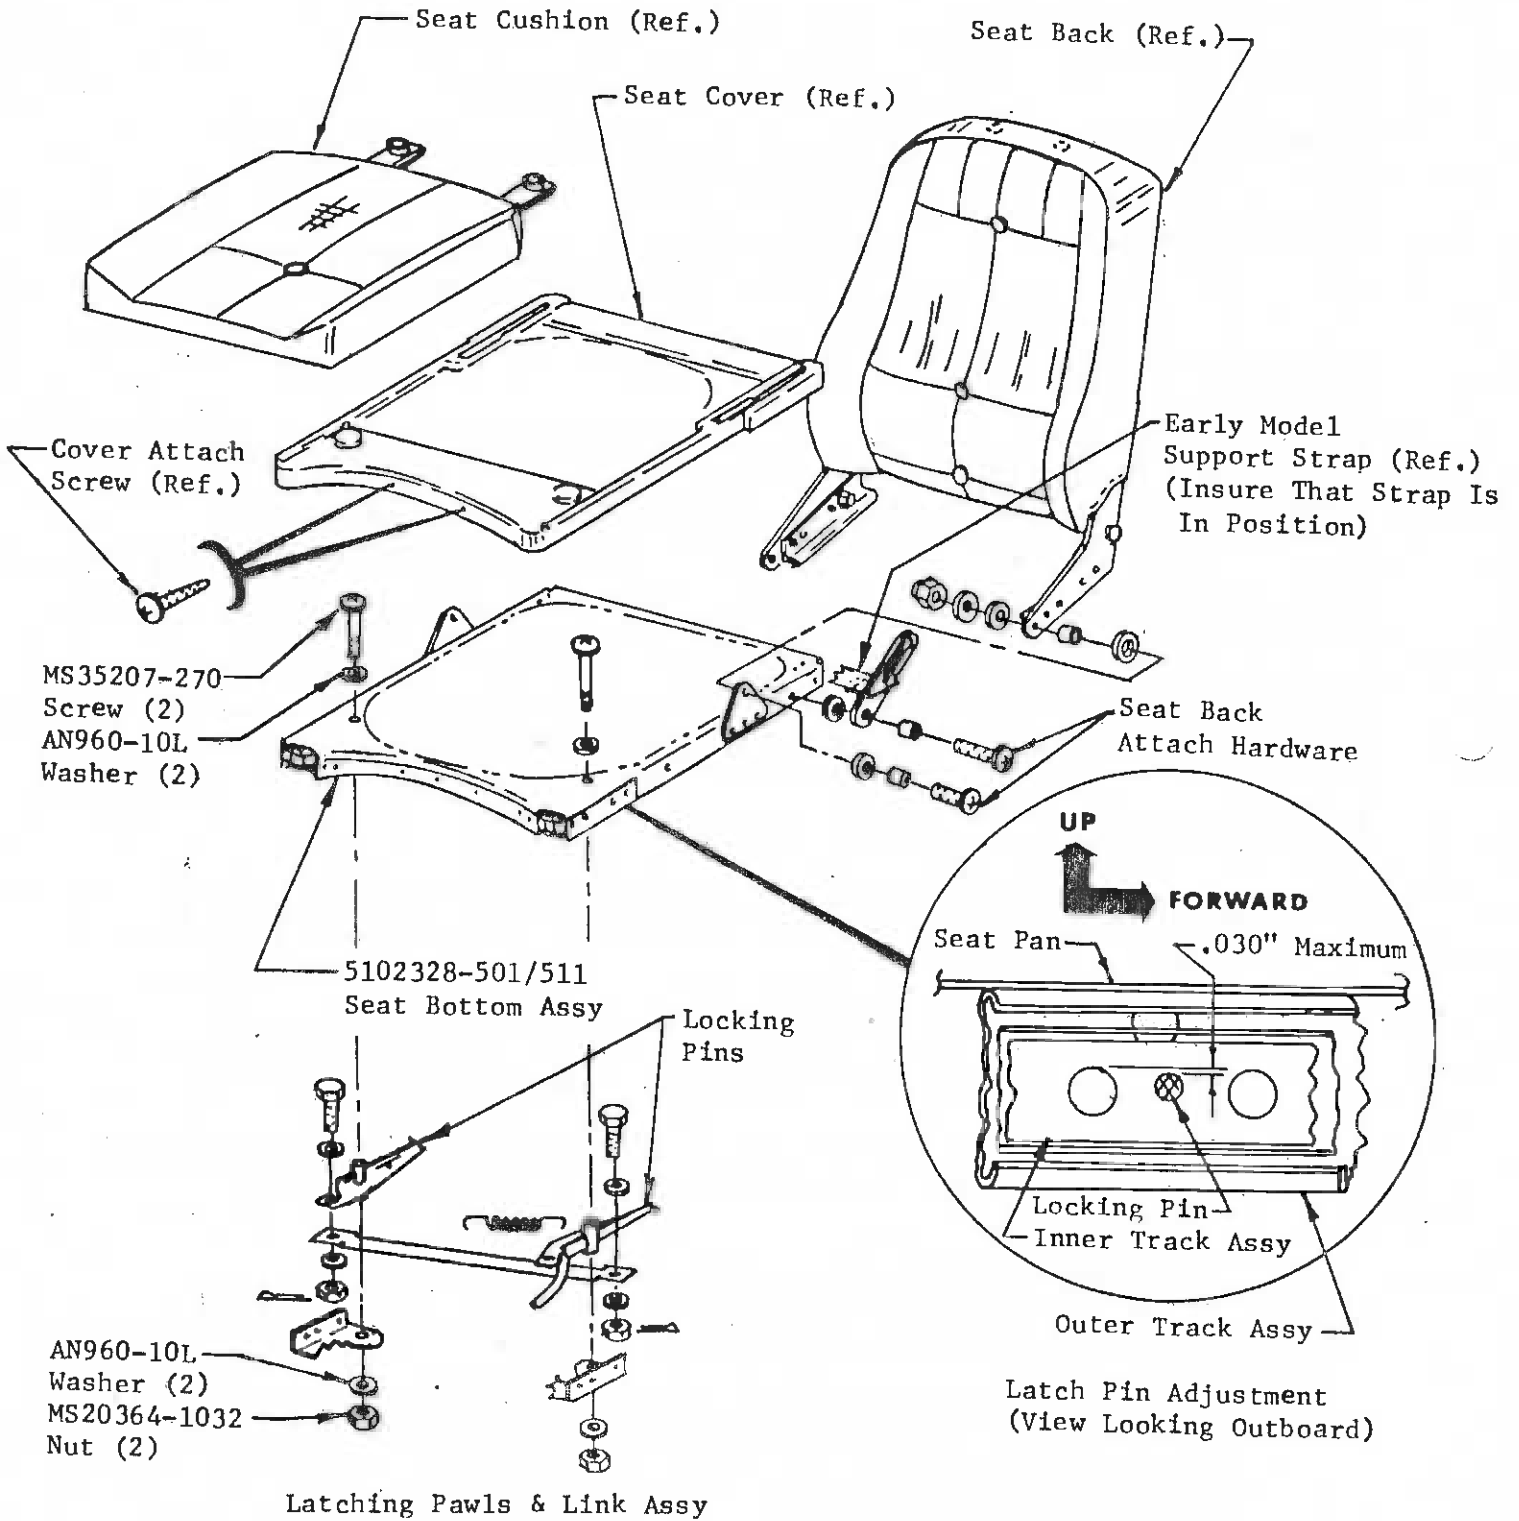

Figure 1. Front Seat Bottom Installation
REPLACEMENT INSTRUCTIONS (REFER TO FIGURE 1)
4. Install latching pawls and link assembly in new 5102328-501/511 Seat Bottom Assembly using hardware removed in Step 3. Bend both pawl arms so that top of pin is aligned with top of adjustment holes within .030 inches as shown in Figure 1, Latch Pin Adjustment. Lubricate inner and outer tracks with general purpose grease per MIL - G - 7711.